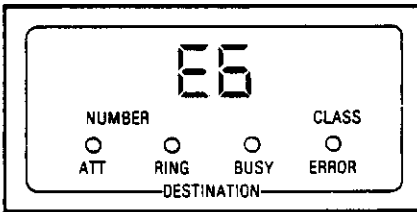

Fig. 243-3 Typical Error Code Display
Error E3 (Table 003-1) may occur after Step (4). See Note 2 and Fig. 243-3